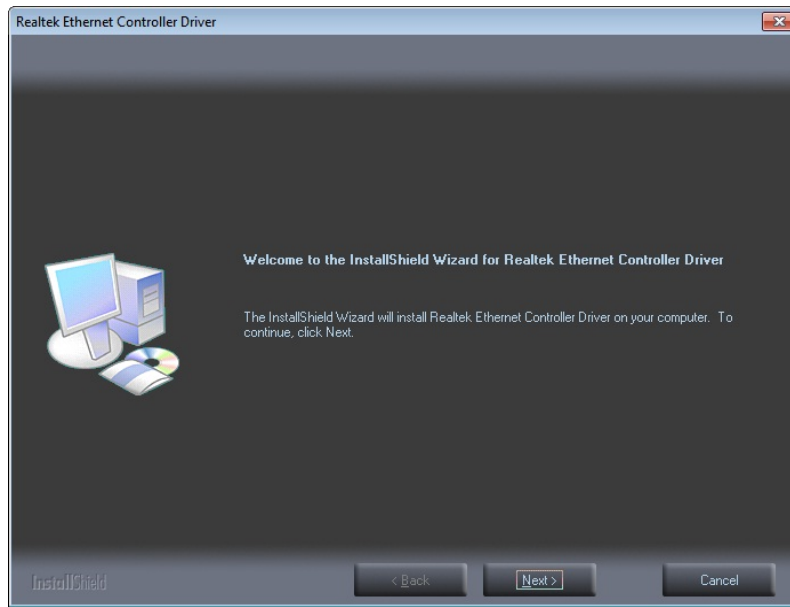

Figure 6-11: LAN Driver Welcome Screen
Step 4: The **Welcome** screen in **Figure 6-11** appears.